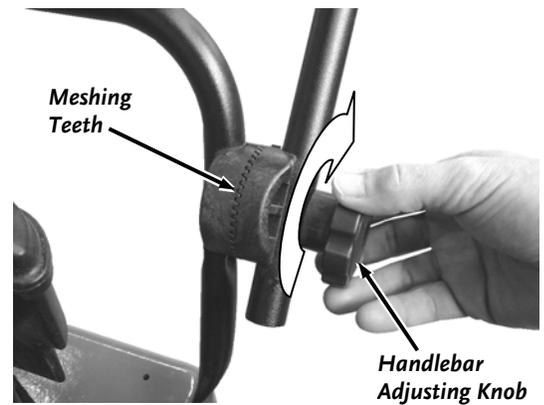

Figure 8
13. Lift the Upper Handlebar until it is near the operator position and tighten the Handlebar Adjuster Knobs (**Figure 8**). The correct operating position is about waist high and can be adjust for comfort.